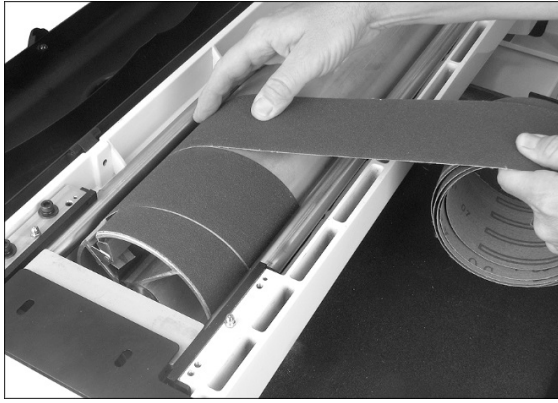

Figure 6-8
4. Continue to wrap abrasive in spiral fashion by rotating drum with one hand and guiding strip with the other. See Figure 6-8.